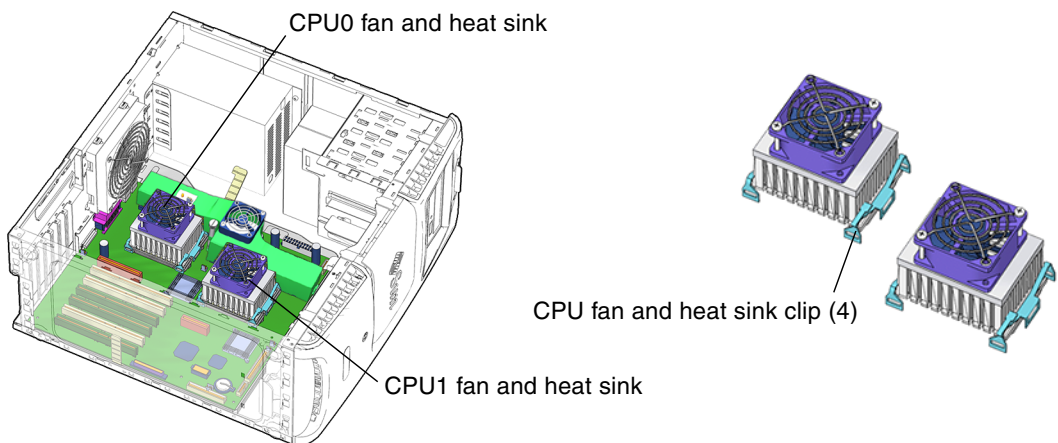

FIGURE 11-9 CPU Fan Locations and Identification
2. Locate the CPU fan and heat sink assembly (FIGURE 11-9).
2. Identify the CPU fan and heat sink assembly location on the motherboard (FIGURE 11-9).